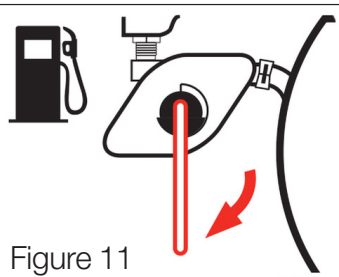

Figure 11
- Turn the fuel valve to the “OFF” position (Fig. 11)